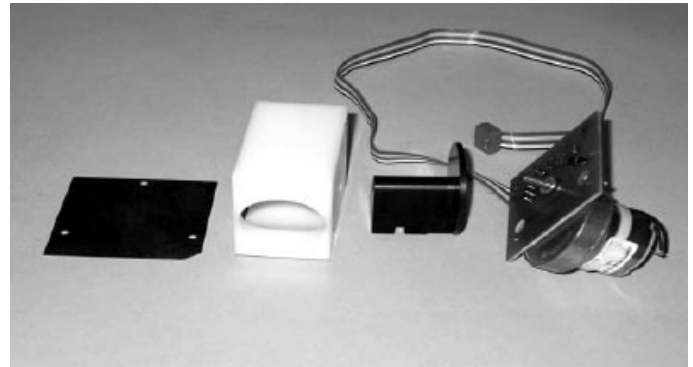

Figure 7 – AP valve assembly, PC board and motor assembly parts
13.2 Replacing the AP Valve Assembly or PC Board and Motor Assembly see figure 7